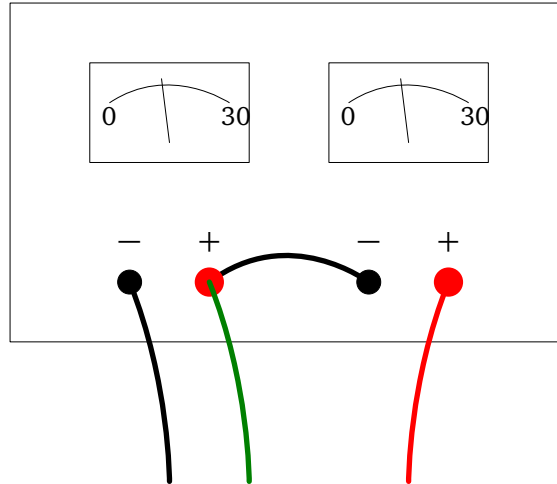

Figure 8: Powering the signal generator board: at the end of §1.2, the power-supply set-up should look like the above. (§1.2)
- 3 Turn off the DC power supply. Using the three-wire power cable, connect the signal generator board to the power supply: red, 12 V; black, -12 V; and green, 0 V. **Warning:** Do not connect the green cable to the power supply's earth ground! The green cable *must* be connected to the common point between the two main power outputs (fig. 8).